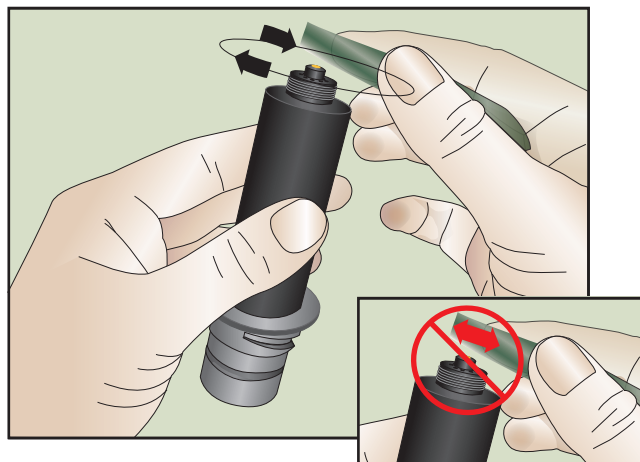

Figure 1
5. Polish the gold electrode by moving the paper in a circular pattern for 30 seconds. DO NOT go back and forth in a single direction. See Figure 1.
7. Apply a small amount of DI water to the white (fine) polishing paper (dull side) and polish the gold electrode by moving the paper in a circular pattern for 30 seconds. DO NOT go back and forth in a single direction. See Figure 1.